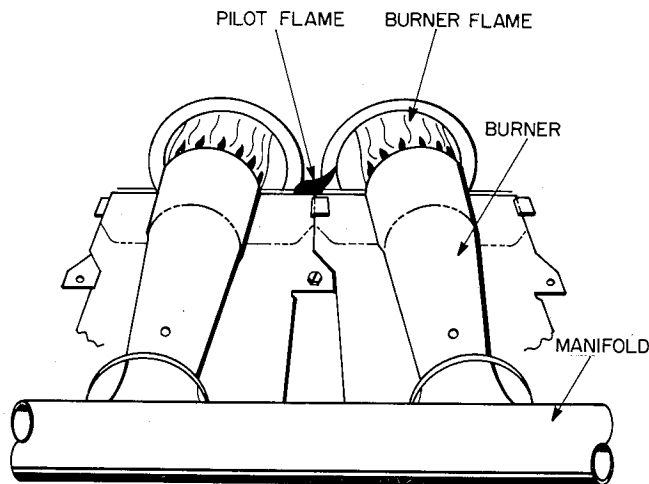

Fig. 19—Burner Flame
- c. The main burner flames should be clear blue, almost transparent. The pilot flame should be soft blue in color, well defined, and must provide good impingement on the pilot-sensing element. Pilot flame should extend above burner carryover port to provide proper burner ignition. (See Fig. 19.)